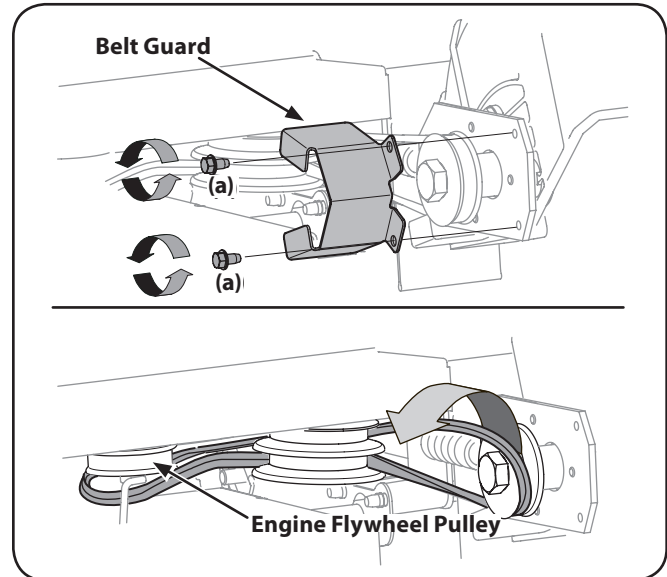

Figure 7-2
3. Remove the spindle sheaves belt guard by removing the two self-tapping screws (a) which secure it to the blade plate assembly. See Figure 7-2.
4. Carefully remove the belt from off of the pulleys, again making sure to note the orientation of the belt. Discard the belt. See Figure 7-2.
NOTE: Make certain that the “V” side of the belt is seated into the top pulley and the flat side of the belt is seated into the bottom pulley. See Figure 7-2.